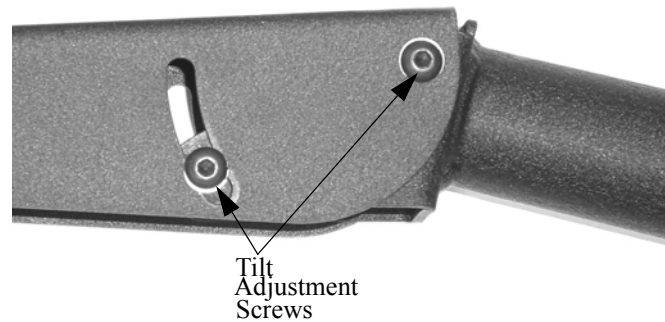

Figure 11. Tilt Adjustment
1. Loosen the four 5/16-18 button head cap screws (see Figure 11).